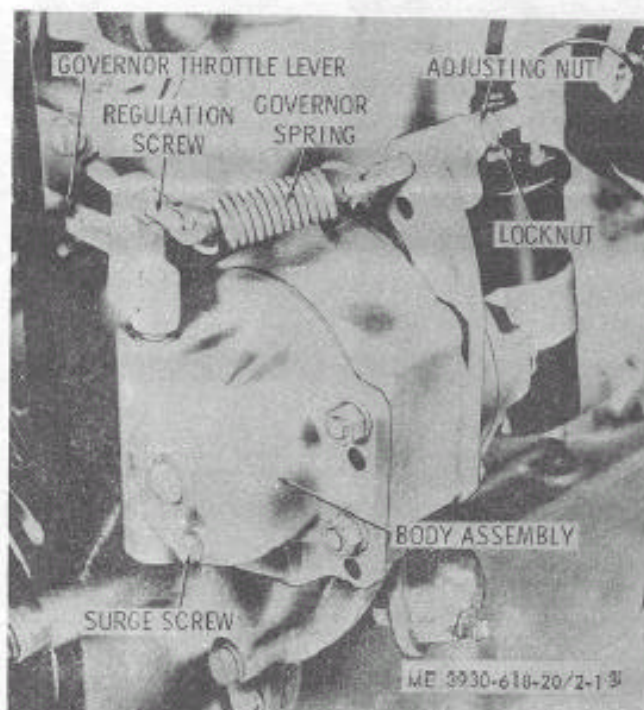

Figure 2-13. Governor adjustments.
(1) Inspect for general mechanical defects and restricted linkage movements.
(2) Inspect the high speed spring for corrosion, damage, or wear. Replace a defective spring.
(3) Attach a tachometer to the engine (para 2-14j) and observe engine speed with the throttle fully open.
(4) Engine speed observed in (3) above, should be approximately 2,200 rpm and there should be no tendency to hunt (surge). Make necessary adjustments as outlined in *b* below.
b. Adjustments. Refer to figure 2-13 and make adjustments as follows: